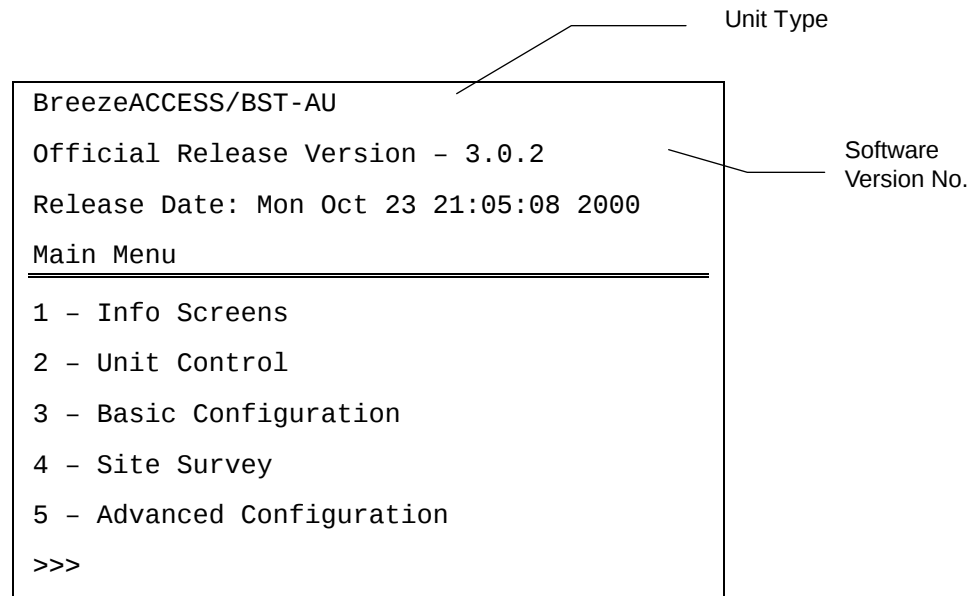

Figure 3-1. Main Menu
3. Press **Enter**. The *Select Access Level* menu appears. Select the access level according to your authorized access level. You will be requested to enter your password. After entering the correct password, press the Enter key. The *main menu* appears as shown in Figure 3-1